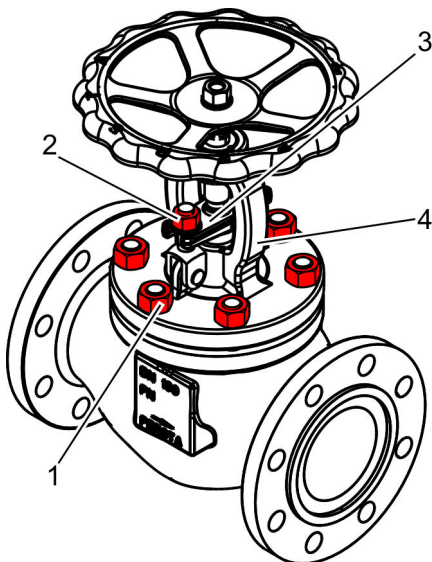

Fig. 29: Screwing on nuts
19.▶ Loosely screw the nuts (Fig. 29/1) with the stud bolts into the body.
Tighten the nuts (Fig. 29/1) on the bonnet (Fig. 29/4) cross-wise as specified by the manufacturer.